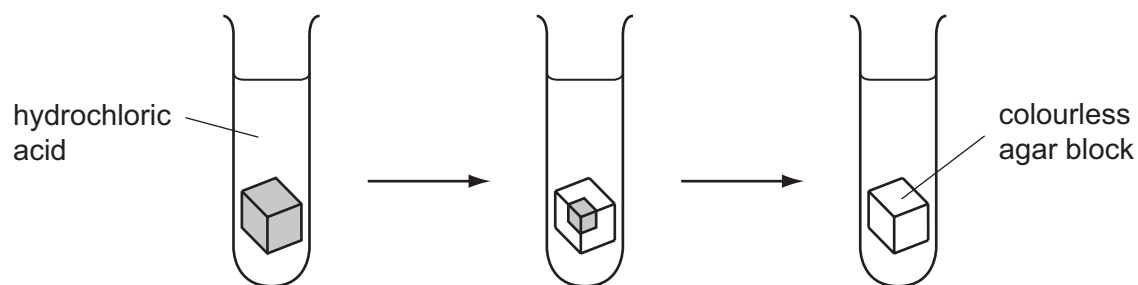

Fig. 1.2
- Record the time taken, in Table 1.1, for each block to go completely colourless (as shown in Fig. 1.2). [3]